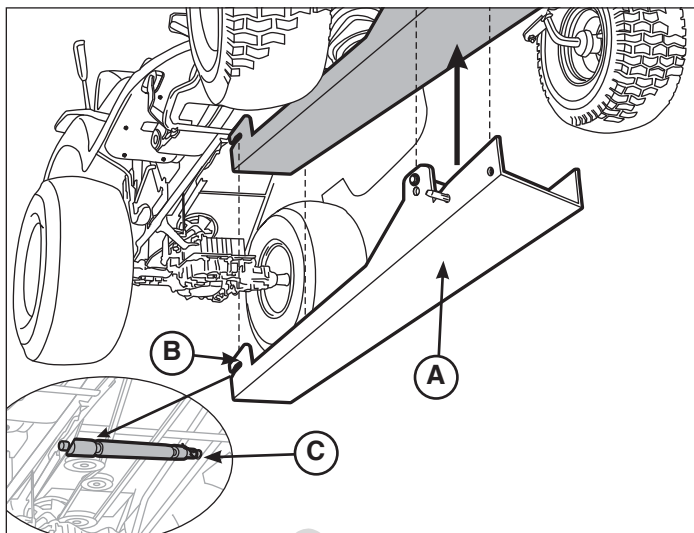

Figure 5
6. Slide the reach (A, Figure 5) under tractor and lift to slide reach mounting arms (B) over reach support shaft (C).